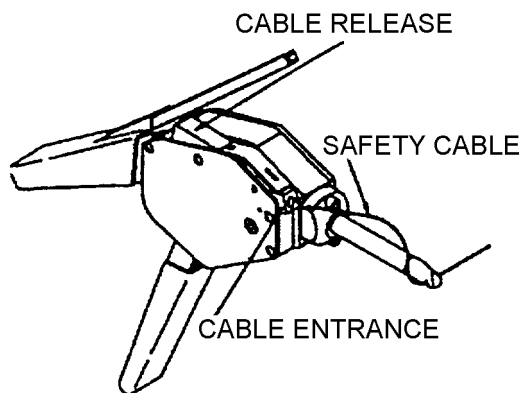

Figure 30. Pre-Set Tension Safety Cable Application Tool
f. Insert the free end of the cable through the tool nose and slide the tool along the cable to the component being secured (Figure 30).
51. The Pre-Set Tension Tool (Figure 30). Insert the free end of the cable into the cable entrance and continue to push the cable into the cavity. When the free end of the cable appears at the bottom of the tool, grip the cable and pull the slack from the cable by repeatedly